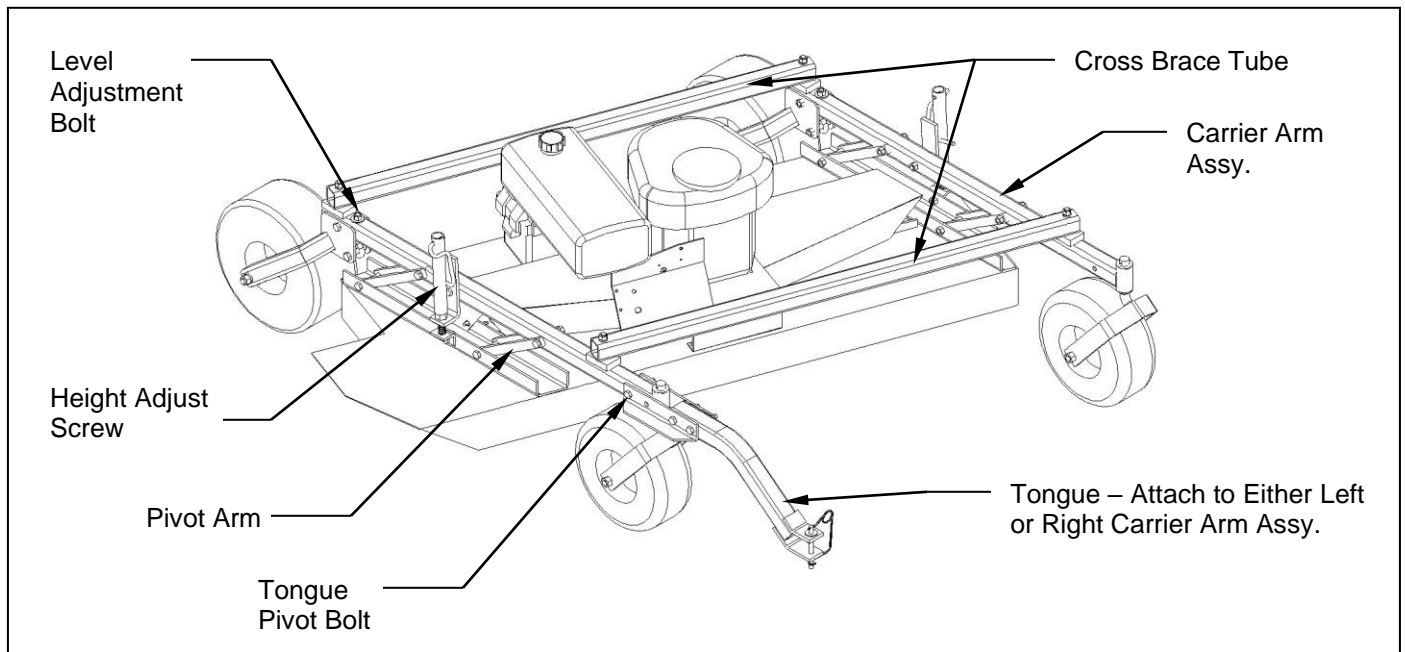

Figure 1. Assembly of Carrier Arm Assy., Tongue and Cross Brace Tubes
2. Install the two carrier arm assemblies in the pivot arms, which are located on the mower deck assembly. Place the assembly so that the castered tires are on the front and the fixed tires are on the back. **See figure 1.** Secure with 1/2" x 3-1/2" hex head bolts and lock nuts provided on
1. The tongue can be installed either on the left or right caster assembly depending on how the wing mower will be towed. **See figure 1.** Tighten the lock nut on the 1/2" x 3-1/2" pivot bolt so the tongue is free to pivot but does not move sideways.